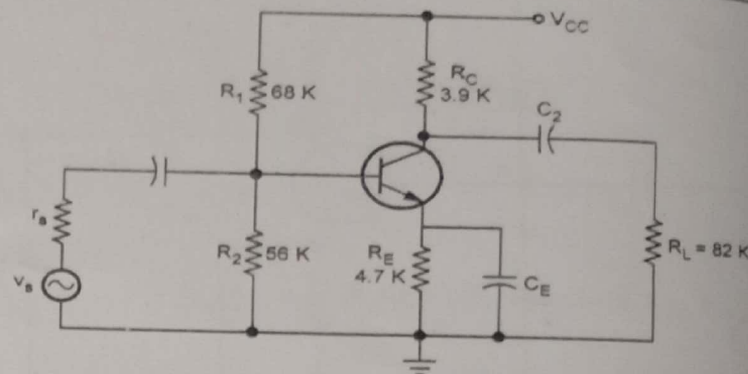

Fig. Q.19.1
Q.19 For the circuit shown in Fig. Q.19.1 calculate input impedance, output impedance and voltage gain. Assume $h_{ie} = 2.1 \text{ k}\Omega$, $h_{fe} = 100$ and $h_{oe} = 1 \mu\text{S}$